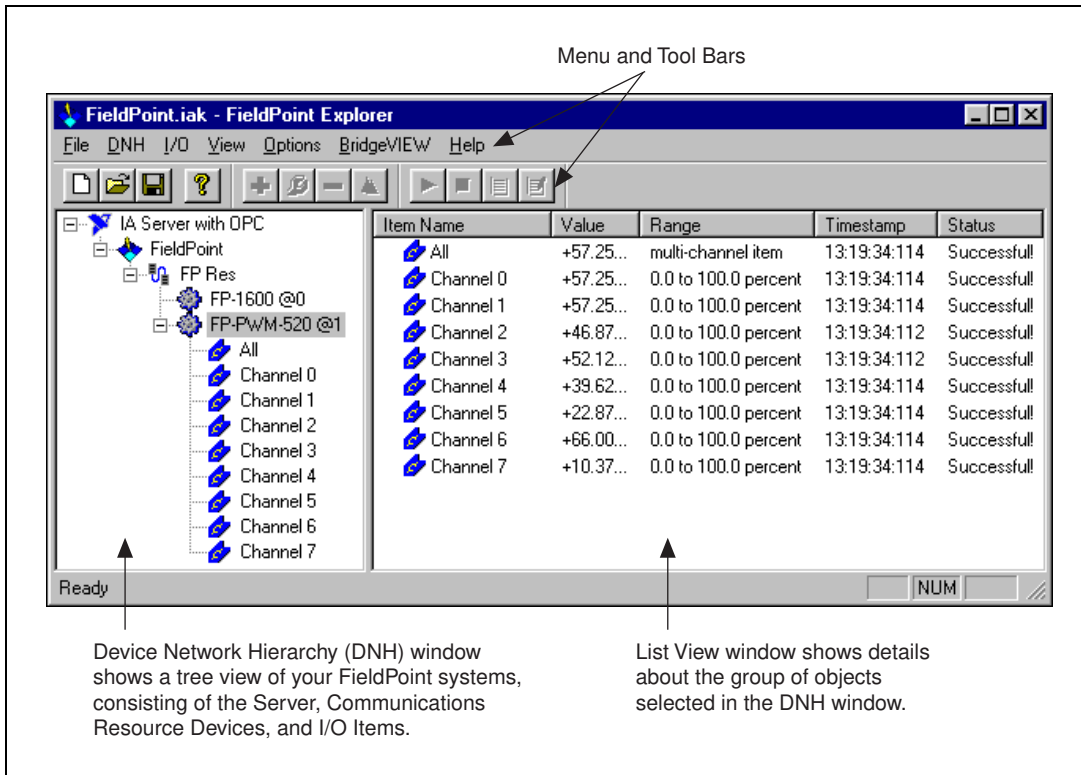
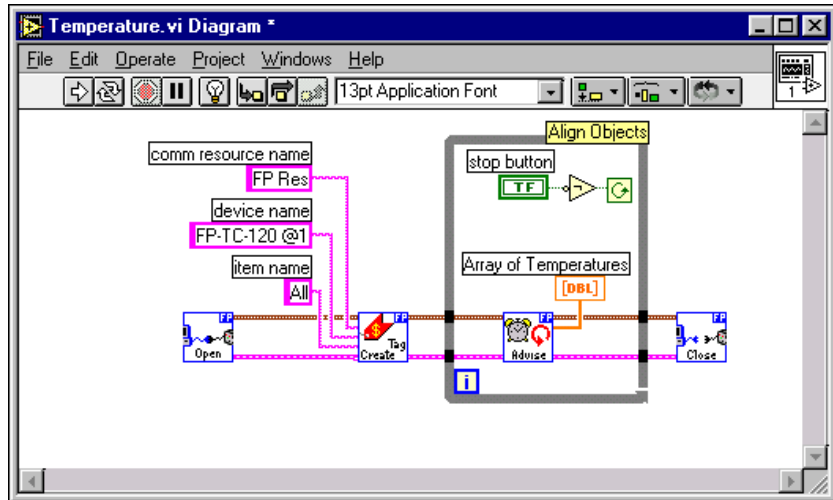

Figure 3-3. FieldPoint Explorer Window
Figure 3-9. LabVIEW Diagram for LabVIEW Example Application
2. From the Windows **Start** menu, select **Programs»National Instruments FieldPoint»FieldPoint Explorer**. The FieldPoint Explorer appears. Figure 3-3 shows the parts of the FieldPoint Explorer window.
The hierarchy includes all of the modules connected to the FP-1600 (Figure 3-3 shows an example of an expanded device hierarchy). The default name of each device found includes the model number of the FieldPoint module, followed by the @ sign and the address of the module (for example, FP-1600 @0). For each I/O module found, one I/O Item is created for each channel on the module, and if all the channels are of the same type, one I/O Item is created to represent all the channels on that module collectively.
A simple FieldPoint application to read an I/O Item might only need to use four of the VIs. To create an example of such an application, complete the following steps and refer to Figure 3-9. This application reads the inputs from the I/O Item named **All**, shown in Figure 3-3.
2. Use FP Create Tag to create a handle to an I/O Item that you defined in FieldPoint Explorer. You provide three string names to this VI to indicate which I/O Item you want access to. These three strings are the names given to the communications resource, the device, and the I/O Item. Figure 3-9 shows default names as they appear when you use the **Find Devices** button in FieldPoint Explorer.